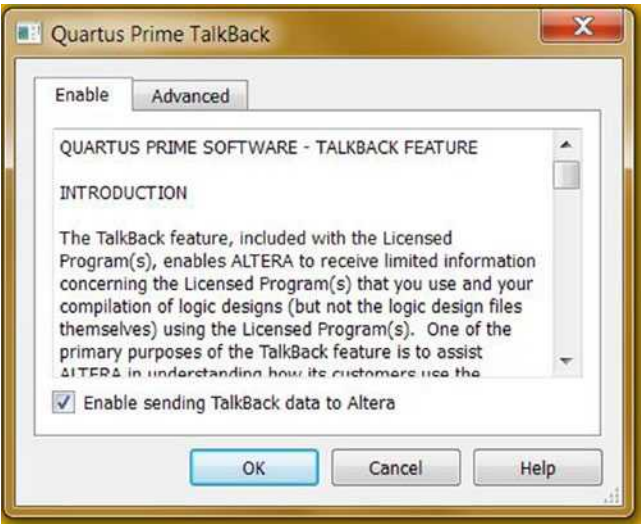

Figure 3-19. *Quartus Prime TalkBack*
8. In order to use the free edition, you need to enable sending TalkBack data to Altera (Figure 3-19). Check *Enable sending TalkBack data to Altera* and Click *OK*.